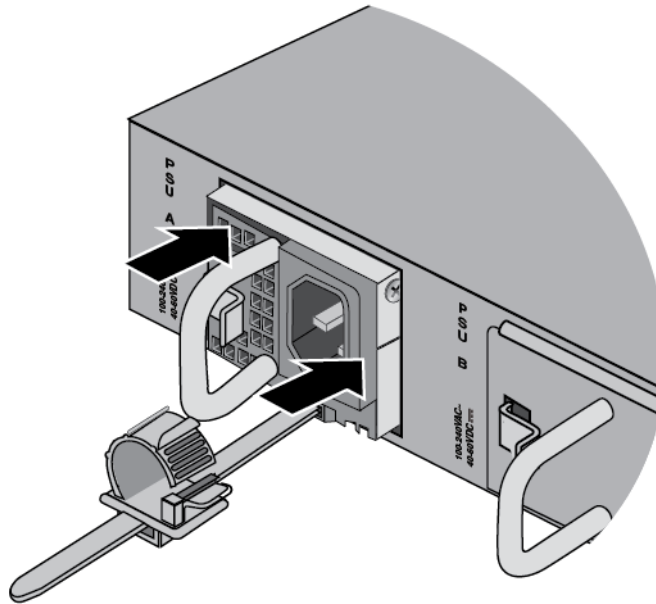

Figure 58. Seating the Power Supply on the Internal Connector
4. When the power supply makes contact with the connector inside the switch, gently press on its faceplate to seat it on the connector. Refer to Figure 58.